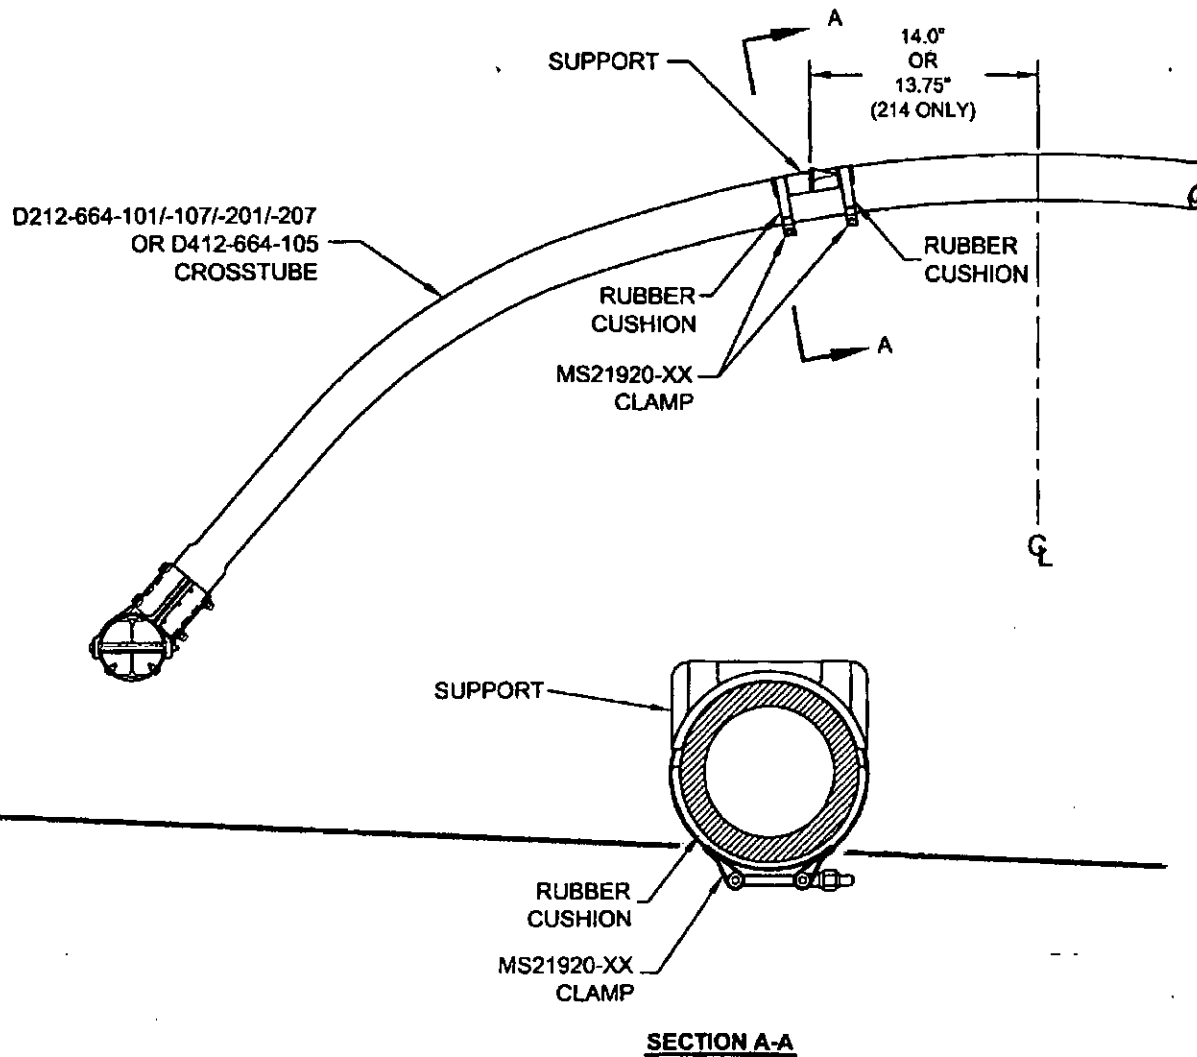

FIGURE 1: SUPPORT INSTALLATION
For the crosstubes listed above, section 32.4 of ICA-D212-664 is amended as follows. Use Figure 1 of this service instruction and Figures 32-2 to 32-9 of ICA-D212-664 for further reference. For crosstubes of an earlier change number, it is recommended that if the supports are removed, the supports should be reinstalled using the procedure listed below.
32.4.1 Locate the area on the crosstube for installation of support (see Figure 1 of this service instruction). For D212-664-101/-107/-201/-207 and D412-664-105 crosstubes, the outward face of the support tabs should be 14.0" (355mm) from the crosstube center for 204/205/210/412/UH-1 aircraft. For installation on 214B/B-1 aircraft, the outward face of the support tabs should be 13.75" (349mm). Ensure paint finish of crosstube is intact; touch up as required per Chapter 5 (5.3.9) of ICA-D212-664.
32.4.5 Apply a 0.04" to 0.07" thick layer of Proseal 890 Class B or AMS-S-8802 Class B sealant underneath applicable support and install support as shown in Figure 1 of this service instruction.
32.4.6 Install the clamps opposite to crosstube support as shown in section A-A of Figure 1. Install rubber cushions underneath each clamp around the bottom circumference of the crosstube up to the crosstube centerline. Torque clamps 80-100 in-lb (9.0-11.3 Nm). It is acceptable to use smaller or larger sized MS21920-XX clamps than those listed in ICA-D212-664, ensure that after torquing the clamps per this instruction, the nuts are in safety but not bottomed out